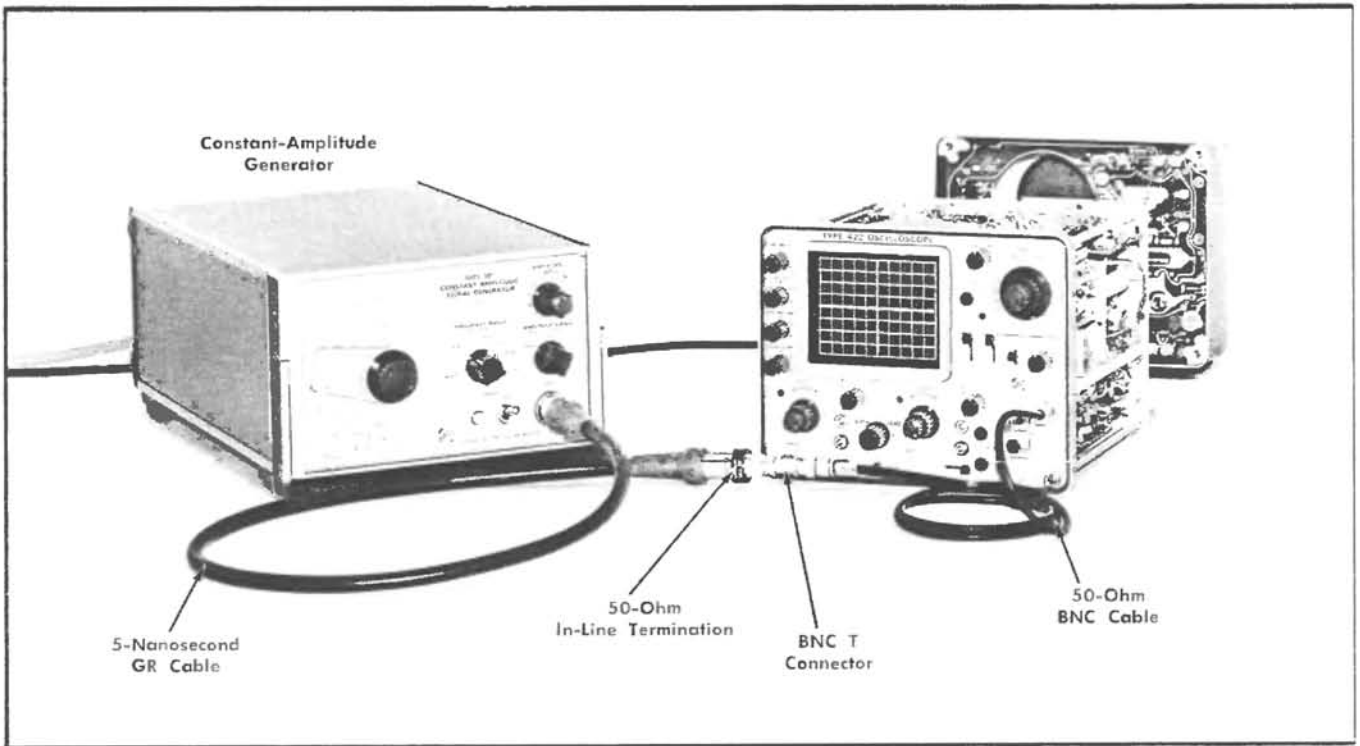

Fig. 6-37. Initial test equipment setup for steps 34 and 35.
- a. Test equipment setup is shown in Fig. 6-37.